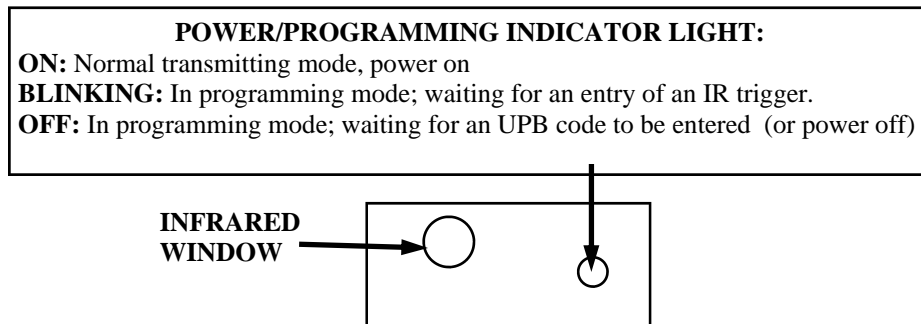

FIGURE 2: VIEW OF FRONT FACE OF IR UPB MODULE
- 4 On the front face (see Figure 2) the red power/programming light should light upon connection to power. Next to the red light is the window for the IR (infrared) receiver. Make sure this window is in line of sight of the IR remote controller being used.